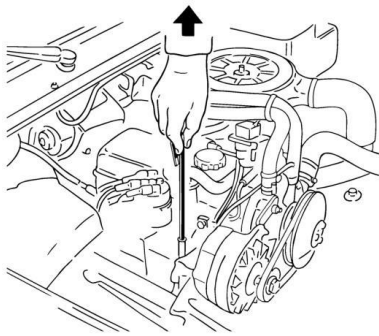
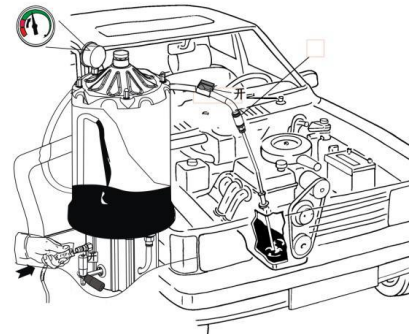

FIG.2
FIG.4
1. Ensure the oil tank is under negative pressure, FIG.2 remove engine oil case., choose suitable probe (which is the largest diameter one can be inserted into the engine) and tightly connect it to the extraction pipe connector. Insert the end of the probe into the engine oil inlet hole, FIG.4 Turn on the ball valve(Part No.32HC-1703) for oil extraction.